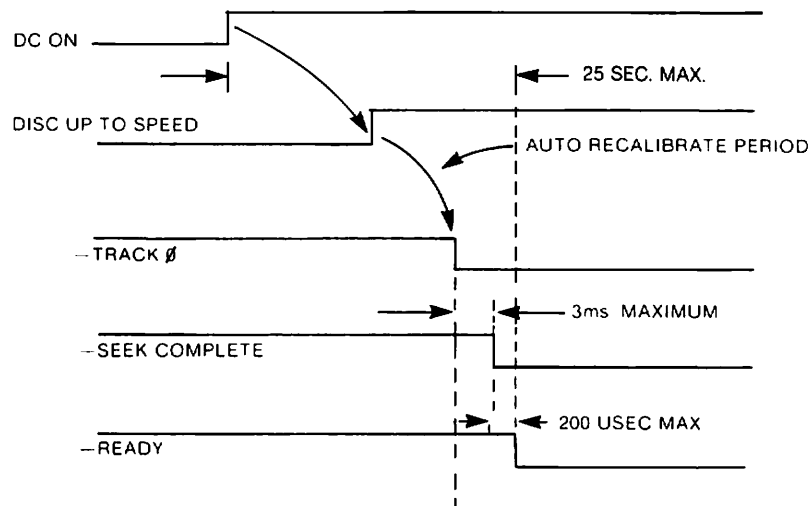

Figure 3-1
3.1 Power Sequencing (Figure 3-1)